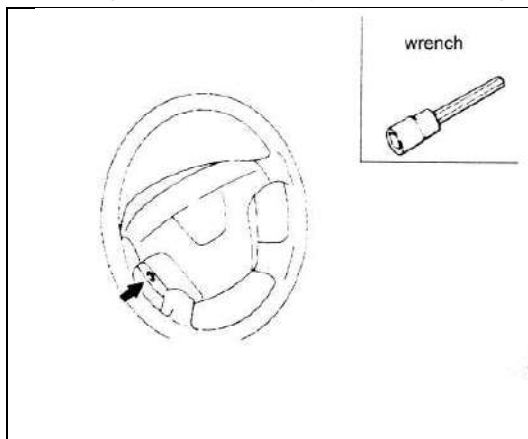

Fig 19-27
(2)Steering wheel and air bag module assembly removal(See fig 19-27)。